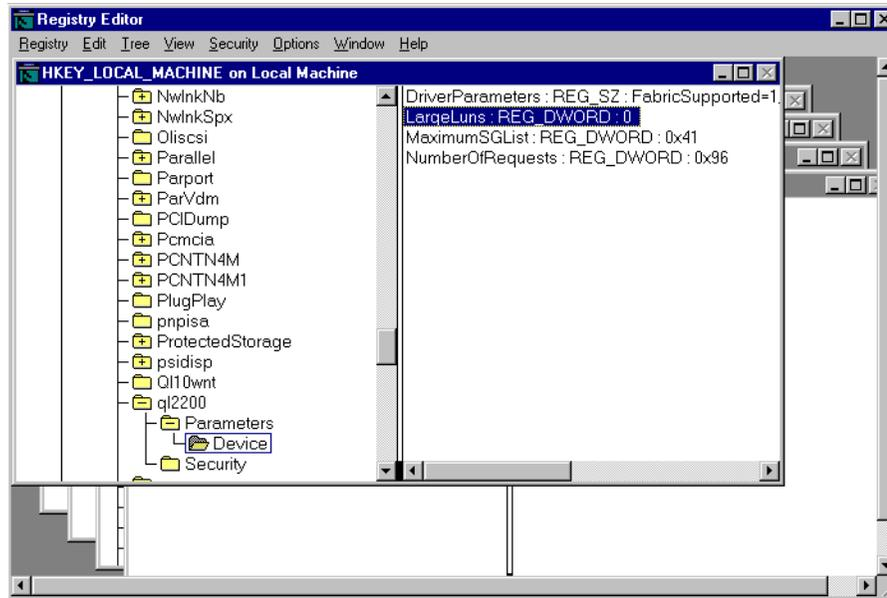

Figure 28. Location of the *LargeLUNs* parameter for the *Qlogic* adapter
9. On the right window, look for *Large LUNs*. This should have a value of *0x1*. If it has a value of *0*, you need to edit it (Figure 28).